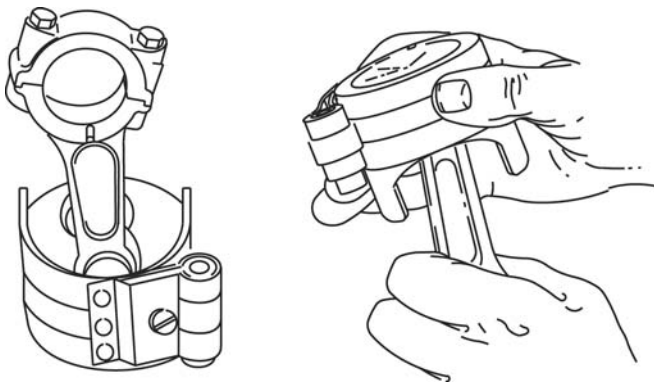

Fig. 140
- a. Place piston and ring compressor upside down on bench with projections on compressor facing up, Fig. 140.